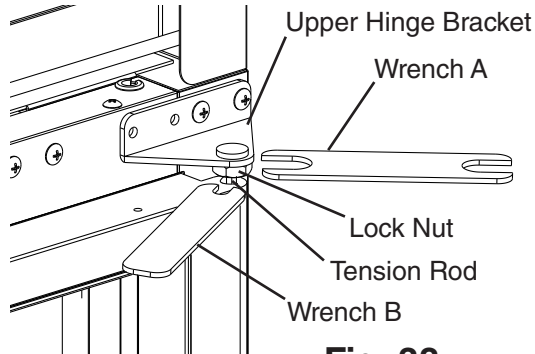

Fig. 38
- 3) At the upper hinge bracket, place wrench B on the tension rod and hold (prepare for tension pressure), then using wrench A, loosen the lock nut. See Fig. 38.